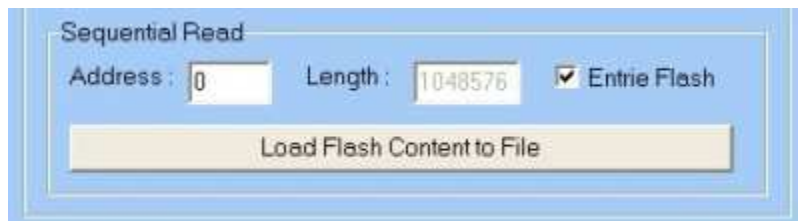

Figure 6.7. Load the content of the Flash Memory to a file
8. Sequential Read function allows you to read the content in Flash and save into a file. Figure 6.7 shows the screen capture of the Sequential Read. You can also specify the starting address and the length (in bytes) to read from the Flash. By clicking on the “Entire Flash” checkbox, you are indicating that you would like to load entire flash content (1Mbyte) into a file specified by you.